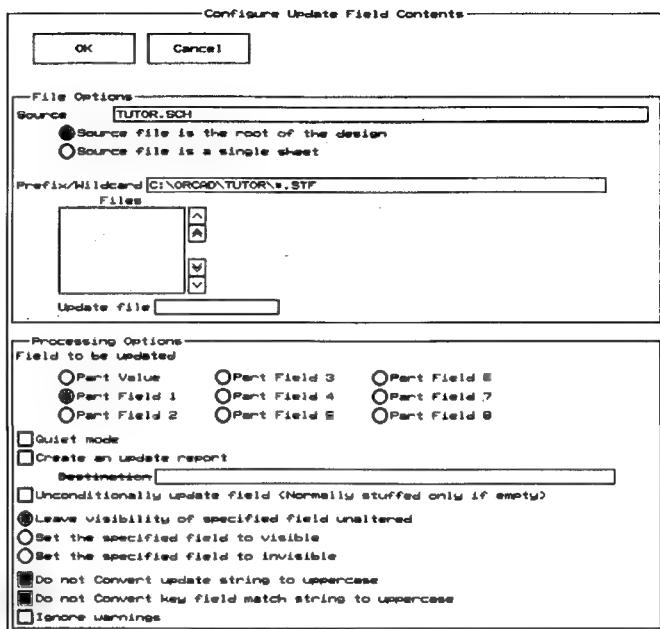

Figure 7-4. The **Configure Update Field Contents** screen.
1. Select **Update Field Contents** on the Schematic Design Tools screen, and then select Local Configuration and **Configure FLDSTUFF**. The **Configure Update Field Contents** screen displays (figure 7-4).